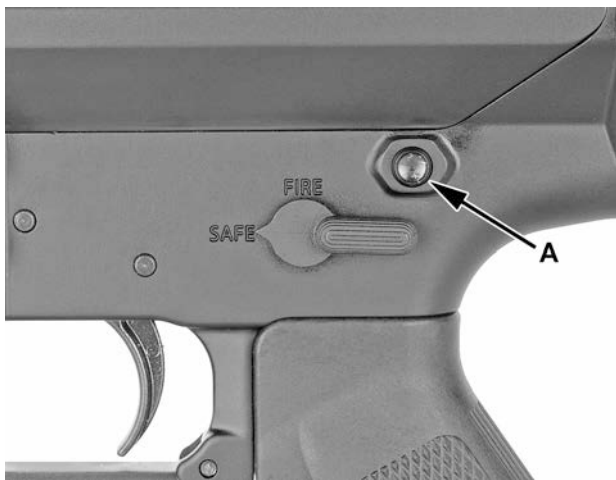

Figure 24
3. Push in on the takedown pin (A) from the left side of the firearm. See figure 24.